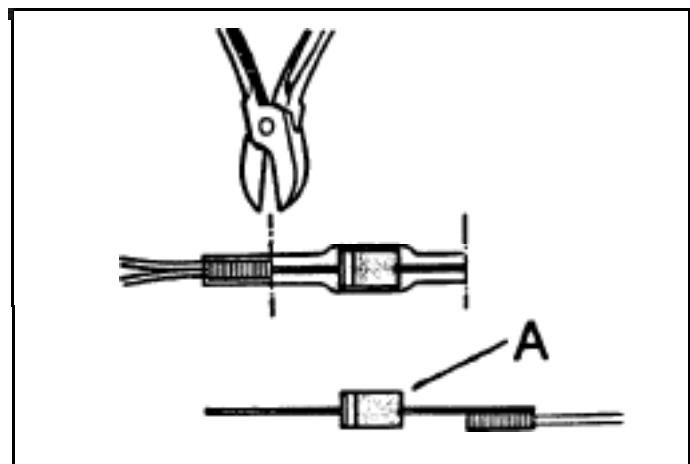

Figure 7. A – New diode
4. Cut off the remaining lead of the defective diode at the other crimp. Remove the insulating sleeve fitted over the crimp, Figure 7.